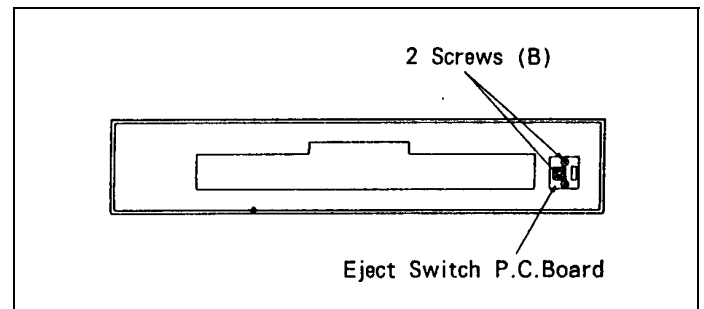

Figure 7-16-2 Eject Switch P.C. Board Removal
2. Unscrew 2 screws (B), then remove Eject Switch P.C.Board shown in Figure 7-16-2.